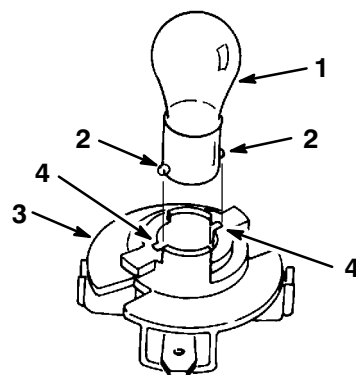

Figure 19
1. The bulb has metal pins on the side of its base. Align the pins with the slots in the bulb holder and insert the base into the holder (Fig. 19). Push and rotate the bulb clockwise until it stops.
4. Push and rotate the bulb counterclockwise until it stops (approx. 1/4 turn) and remove bulb from the bulb holder (Fig. 19).